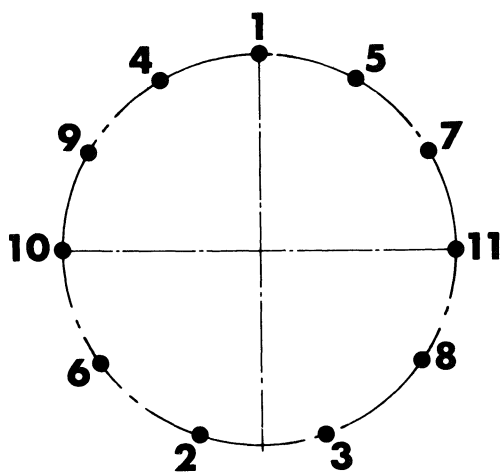

Figure 13. Torquing Sequence
10. Lubricate the spindle bolt threads and install the nuts. Tighten nuts to a torque of 89 lb-ft (120 Nm). Then loosen nuts and again tighten to a torque of 130 lb-ft (175 Nm). Use Figure 13 as reference for sequence of tightening nuts.